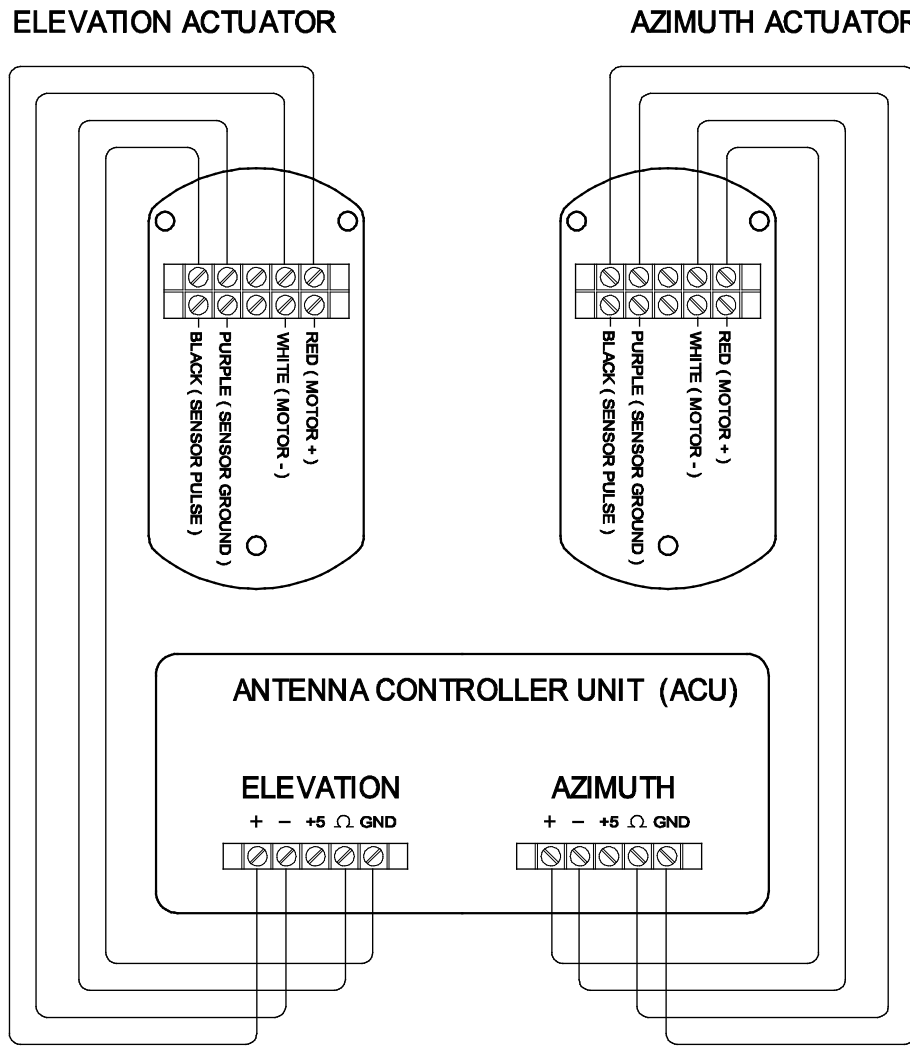

Figure 5
Refer to figure 5 and follow the instructions in the listed sequence.
- STEP 2:** Connect wires as shown in figure 5. Make sure the Antenna Control Unit is unplugged when connecting wires.